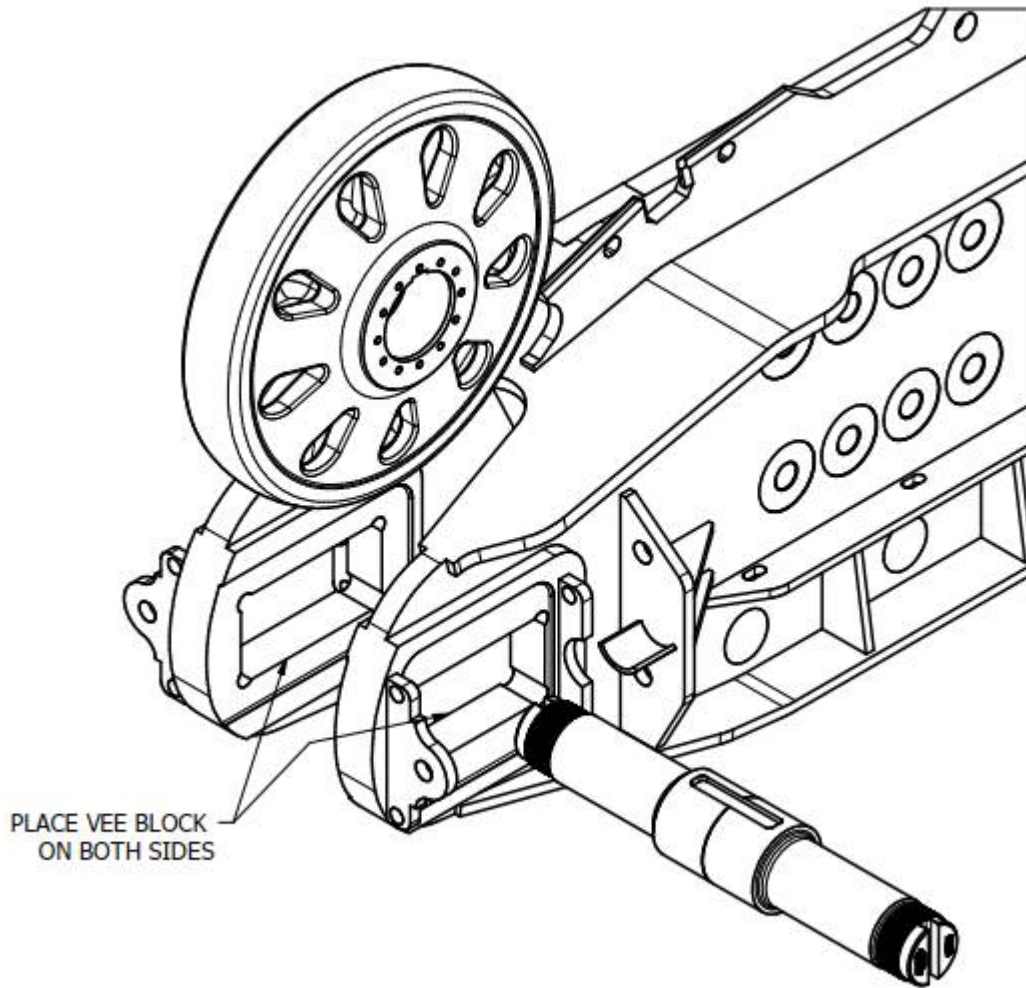

Figure 9: Idler and shaft installation
- 3.5 Using a suitable lifting device, lift idler wheel (item 1) into position over the front idler pocket in the crawler frame as shown in Figure 9. Lower wheel into place and center between the frame. Be sure the keyway is aligned with the keyway in the shaft (item 2), and the large bore in the idler is positioned toward the outboard side of the frame.